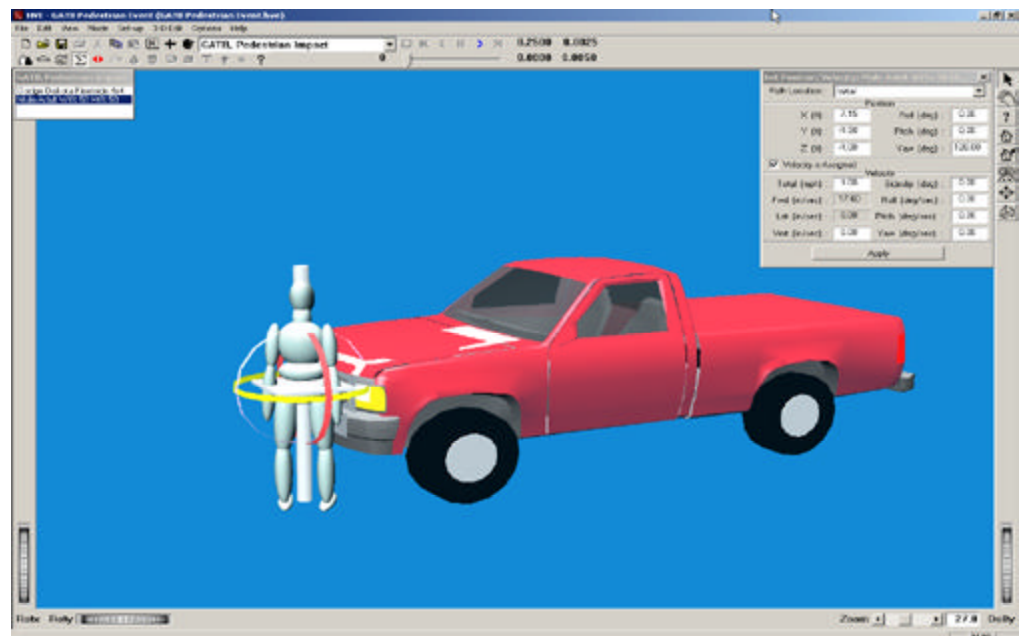

Figure 5-35: Positioning the human in front of pickup
- Enter the following data in the appropriate fields in the *Position/Velocity, Initial* dialog. See Figure 5-35.